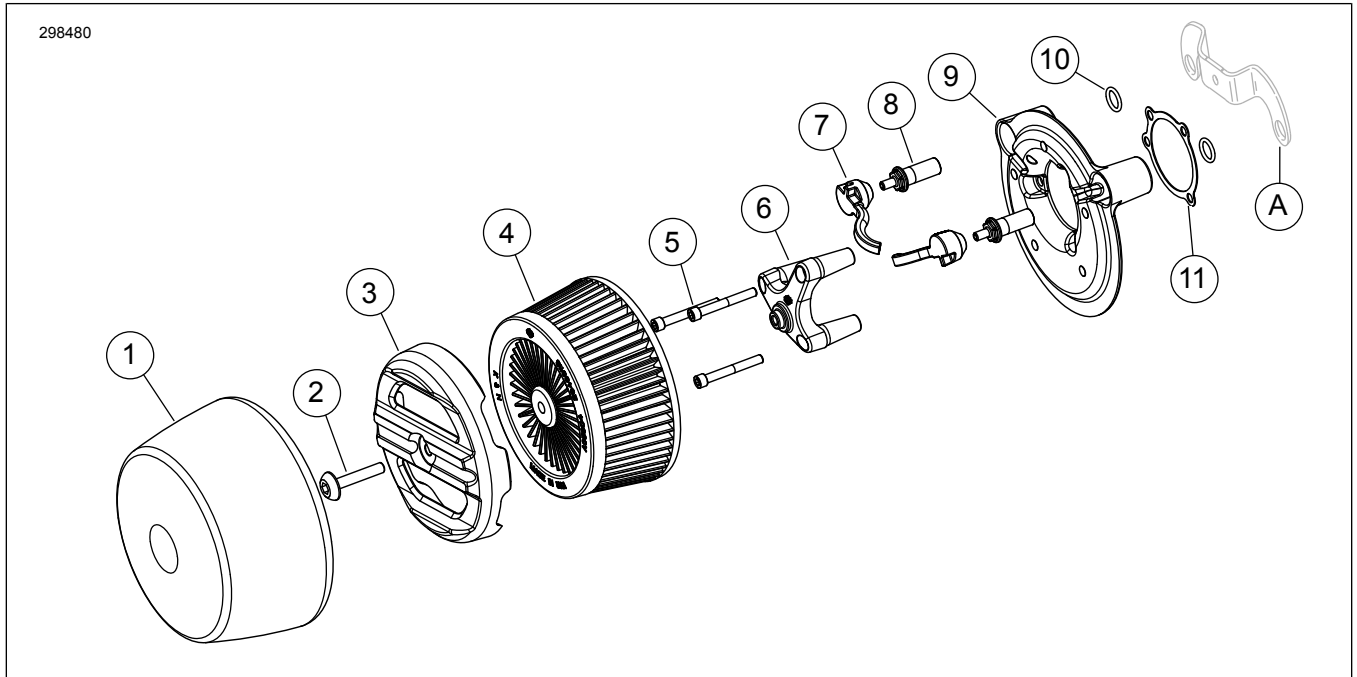

Figure 1. Service Parts, Screamin' Eagle Performance Air Cleaner Kit
See Figure 1 and Table 1.
1. See Figure 1. Install two O-rings (10) from kit in grooves around breather screw holes on induction module side of backplate assembly (9).
2. Align the holes in the gasket (11) with holes in the backplate. Install on the induction module side of the backplate.
3. Apply threadlocker to the threads of the breather screws (8) and the mating tapped holes in the cylinder head.
6. Thread air cleaner mounting screws (5) through the mounting bracket (6) and into the backplate (9) until the screw threads are captured in induction module. Leave fasteners loose.
7. Alternately secure two breather screws (8). Tighten.
*Whenever the air cleaner cover is installed, apply threadlocker to the air cleaner cover screw (2).*
1. See Figure 1. Install the air cleaner element (4) and cover (3). Before tightening the center screw, align the cover for best appearance. Secure center screw. Tighten.